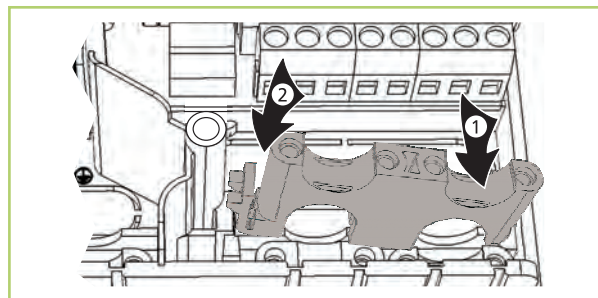

Fig. 30: Inserting the right plastic bridge
1. ➤ Insert the right plastic bridge first using the locking catch ① (Fig. 30).
2. ➤ Press the other side of the plastic bridge down ② until the clip clicks into place.